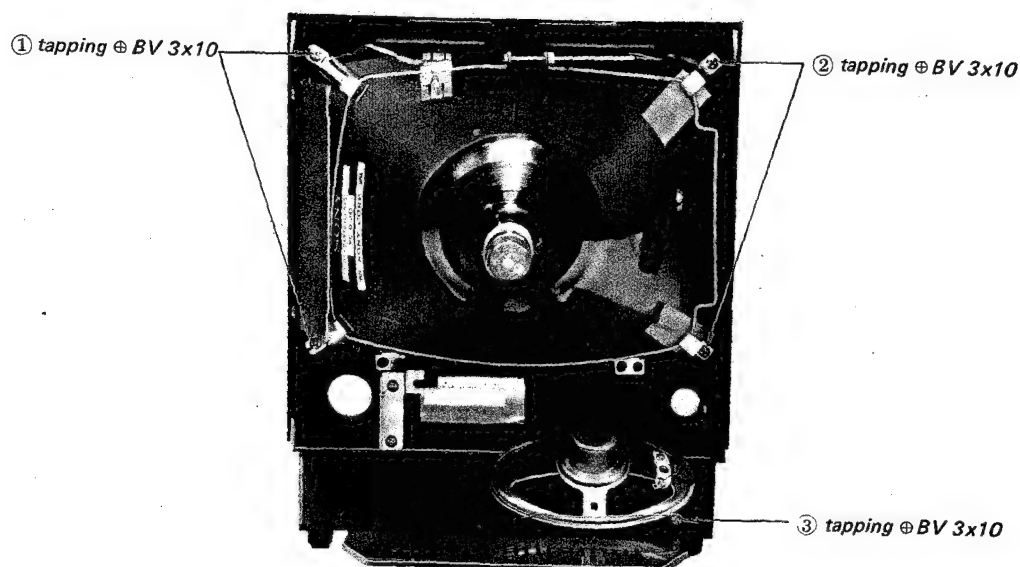

Fig. 18
1. Remove the four screws (① , ② in Fig. 18).
1. Remove a screw (③ in Fig. 18).